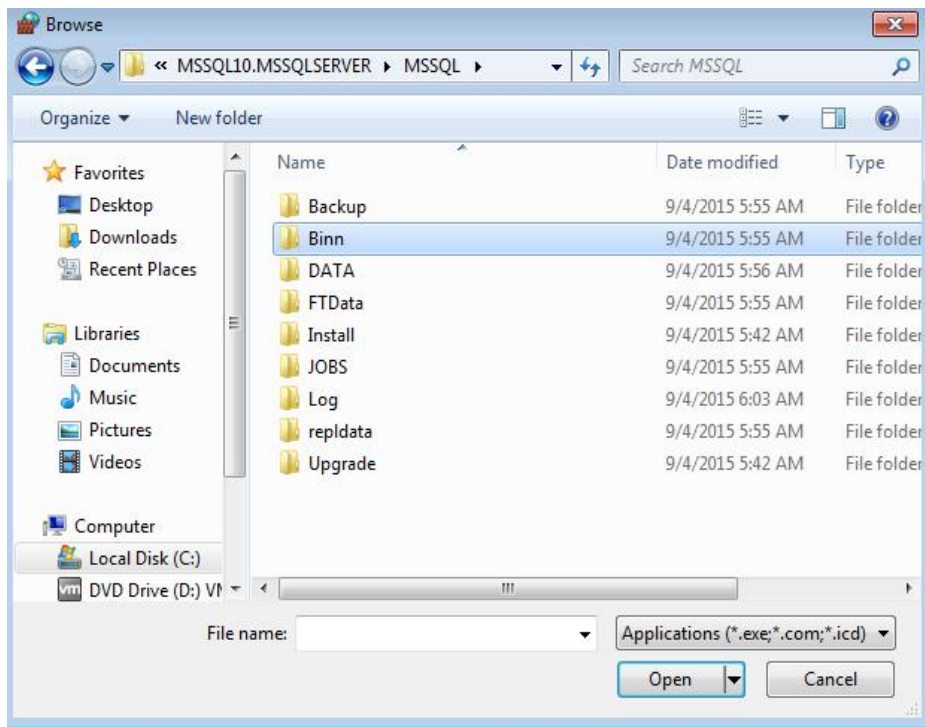

Fig.1.23 MSSQL
(10) Open “Binn” folder (see Fig.1.23).